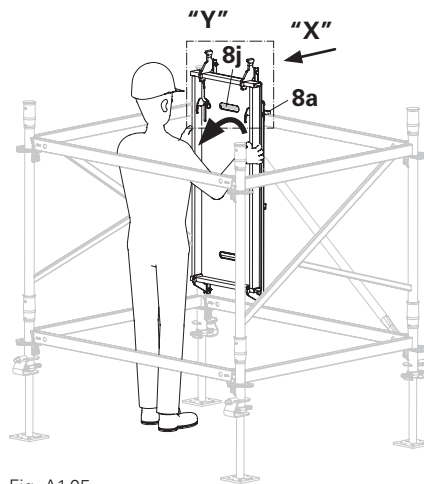

Fig. A1.05
1. Suspend deck with both hooks (8a) of the red side above the beam of the horizontal ledger. (Fig. A1.05 + A1.06)